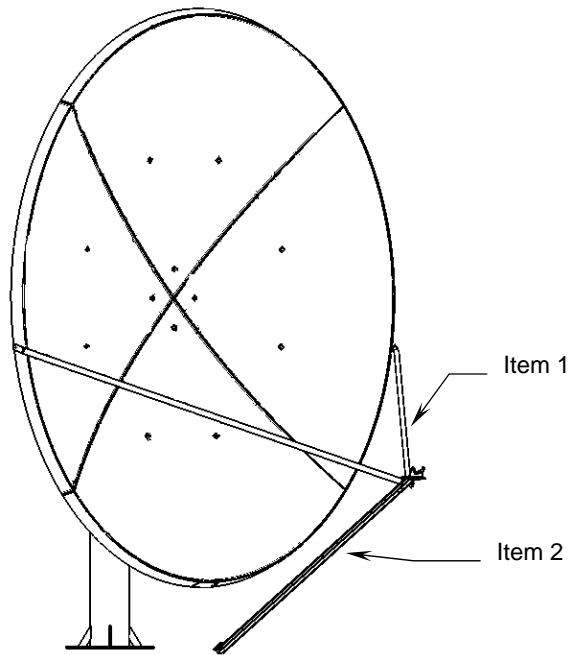
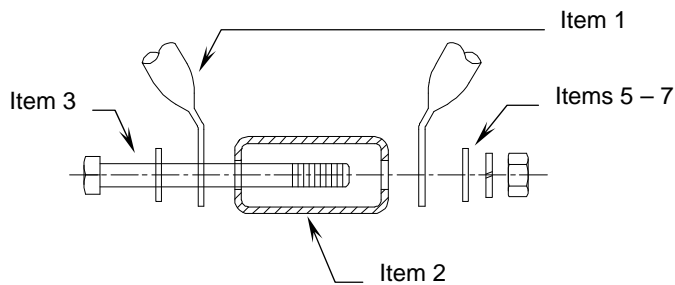

**Figure 23: Feed Rod Reflector Assembly**
**Figure 24: Feed Rod Reflector Detail**
1. Attach the long end of each feed rod (item 1) loosely to the sides of the reflector with 3/8" hardware (items 4, 8 – 10). See Figure 23, Feed Rod Reflector Assembly. See Figure 24, Feed Rod Reflector Detail.